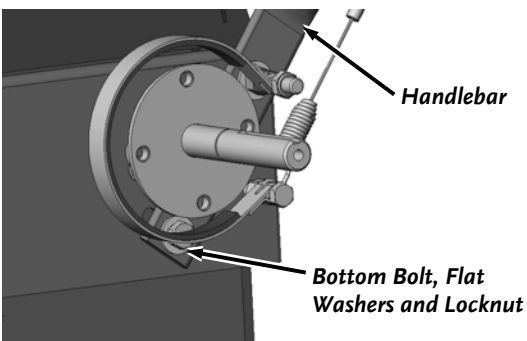

Figure 26
3. Remove the bottom Bolt, Flat Washers and Locknuts from both Handlebars with two 9/16" Wrenches and just loosen the upper Hardware (**Figure 26**).